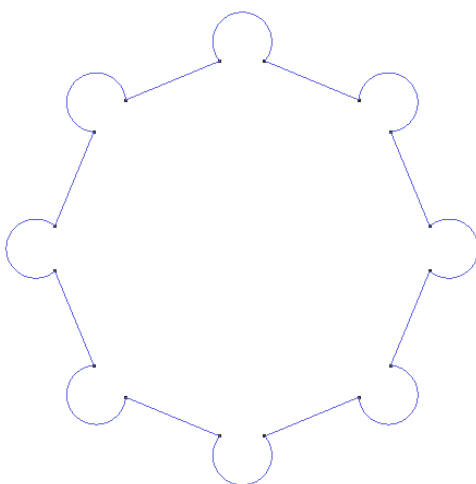

Figure 42. The new hole profile
- 11 . Delete the auxiliary lines and points leaving only the valid lines, thus obtaining the new profile of the hole. The result is illustrated in Figure 42.